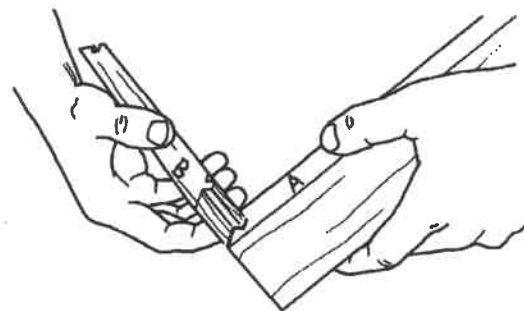
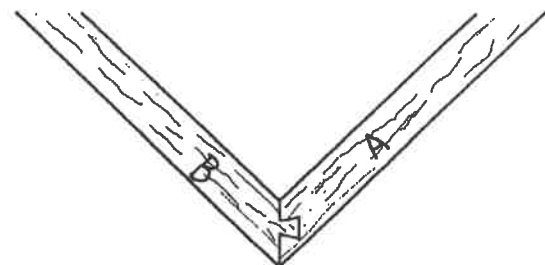

Fig. D-5
Fig. D-6
9. Assemble the two workpieces, shown in Fig. D-5, to form the bevel sliding dovetail joint. Fig. D-6 illustrates the finished joint.